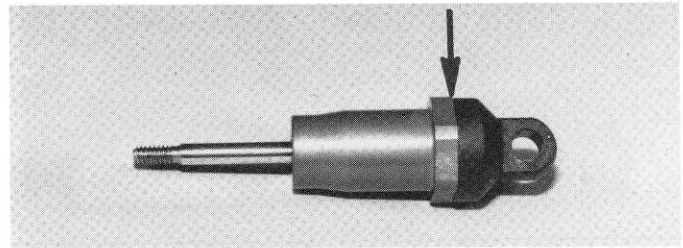

Fig. 120
- Fig. 120** Push the shaft up so the piston is up to the top of the body, otherwise there will be too much internal pressure. VERY CAREFULLY screw the shock cap onto the body, making sure the cap goes on straight. BE CAREFUL not to crossthread the cap.